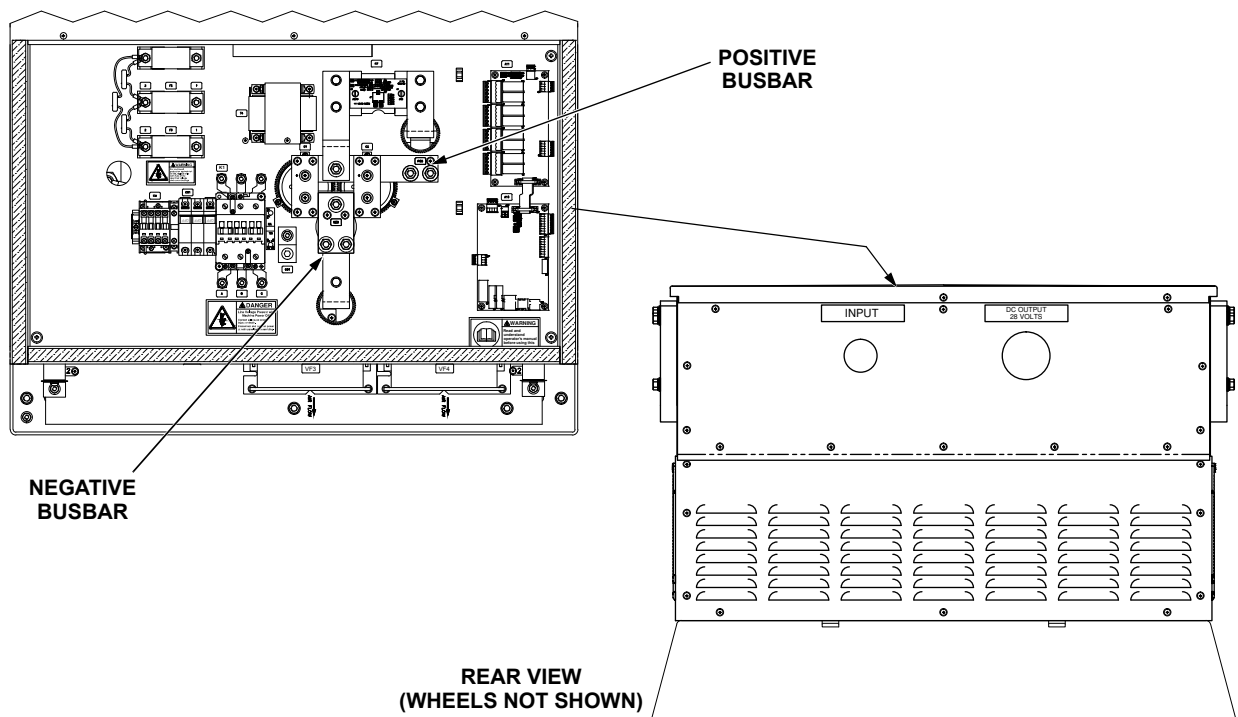

Figure 5. Output Power Cable Connections
The unit is routinely shipped with the output power cables installed. However, if it is necessary for the user to install or replace the output power cable, the following guidance is provided. Refer to Figure 5.
5. Route the output cable through the output port to the positive busbar, and to the negative busbar. Refer to Figure 5.